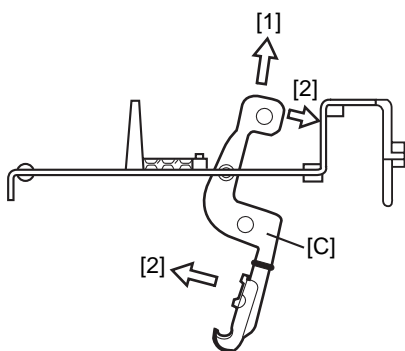

Fig.10
- 14-1 Insert the hammer assembly marked [C] in the frame in the direction marked [1]. (Fig. 10)
- 14-2 Place the hammer assembly as shown in figures 10 and 11.